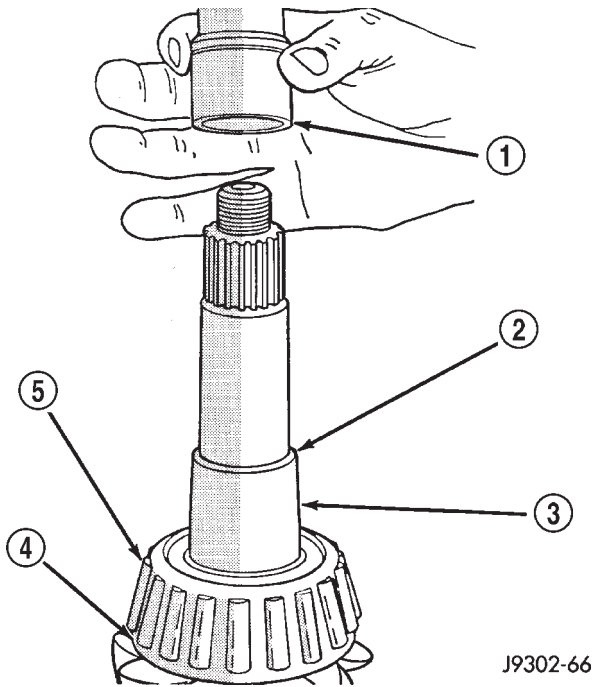

Fig. 38 Collapsible Spacer
(11) Remove the collapsible preload spacer (Fig. 38).